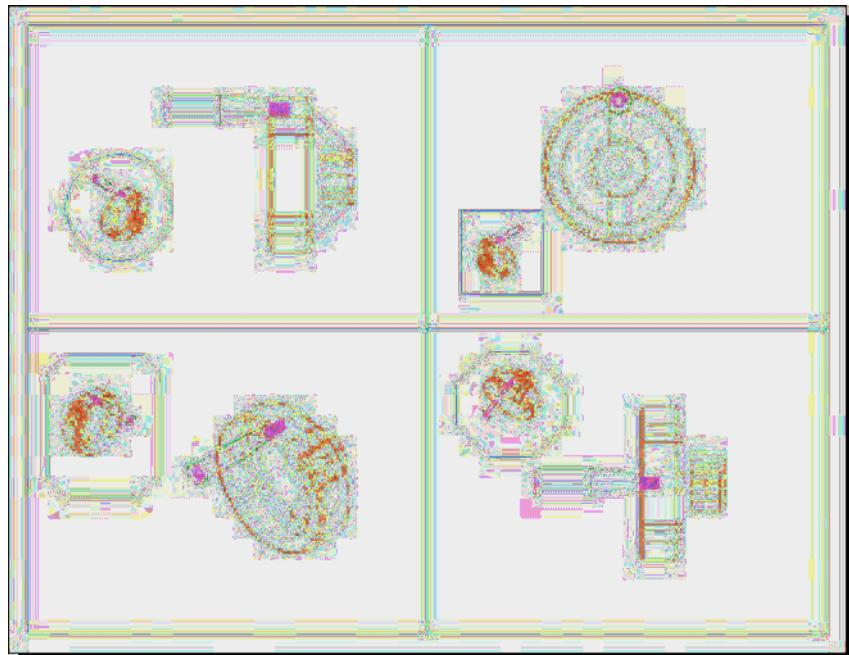

Fig. 19.12 Polygonal viewports – plot preview
Polygonal viewports (Fig. 19.12)
13. Click the **Plot** icon. Make plot settings in the **Plot** dialog. Click on the **Preview** button of the **Plot** dialog. The **Preview** appears (Fig. 19.12).